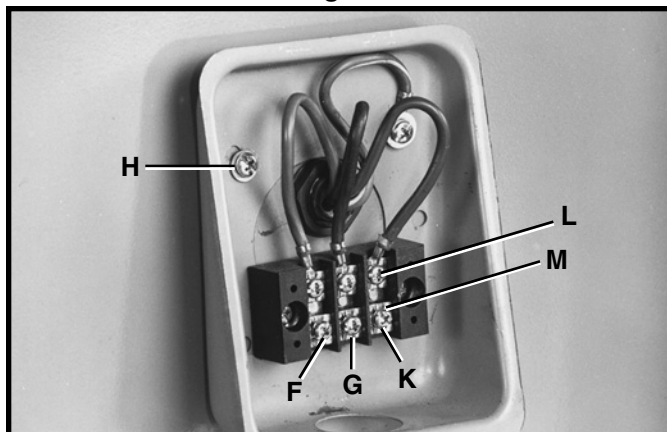

Fig. 12
If the planer is wired for three phase operation, connect the three power lines to terminals (F), (G) and (K) Fig. 12, and the green ground wire to ground terminal (H). **IMPORTANT: FOR THREE PHASE MACHINES ONLY.** After applying power to the machine, jog the power on and off to check if the cutterhead is rotating correctly. If the cutterhead is not rotating correctly, interchange any two of the three power lines connected to terminals (F), (G) and (K) Fig. 12.
If the machine is wired for single phase operation, there will be two power lines connected to the top terminals (L) Fig. 12. Connect the two incoming power lines to the corresponding bottom terminals (M) and connect the green ground wire to ground terminal (H).